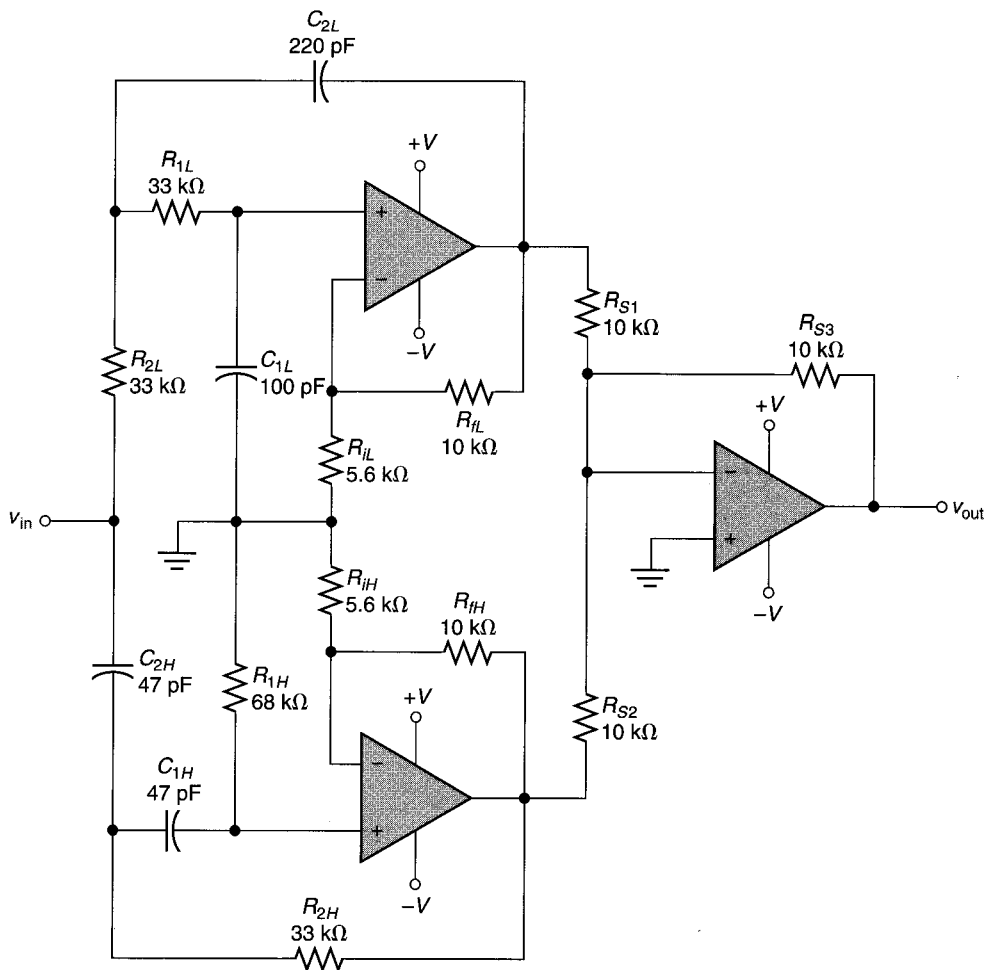

FIGURE 17.55
- 24.** Calculate the values of  $f_{C1}$ ,  $f_{C2}$ , bandwidth, geometric center frequency, and  $Q$  for the notch filter in Figure 17.55.